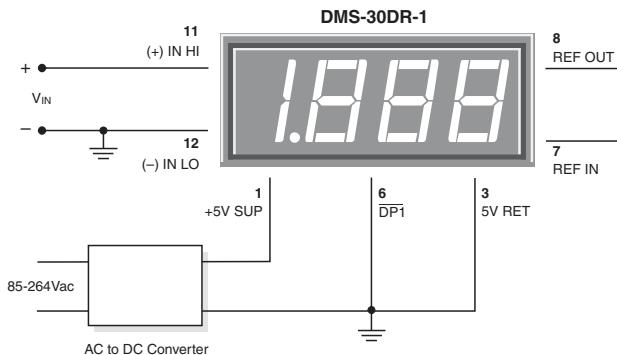

Figure 2. Single-Ended Input Configuration
1. **Single-Ended Input Configurations:** True single-ended measurements can be made with any DMS-30DR meter. The circuit of Figure 2 avoids problems normally associated with ground-loop currents. Separate ground runs should be used for 5V RETURN (pin 3) and (-) INPUT LO (pin 12). This will ensure that large LED currents will not flow in the wiring that connects V_{IN} to (-) INPUT LO (pin 12). Ground-loop currents can cause unstable readings.